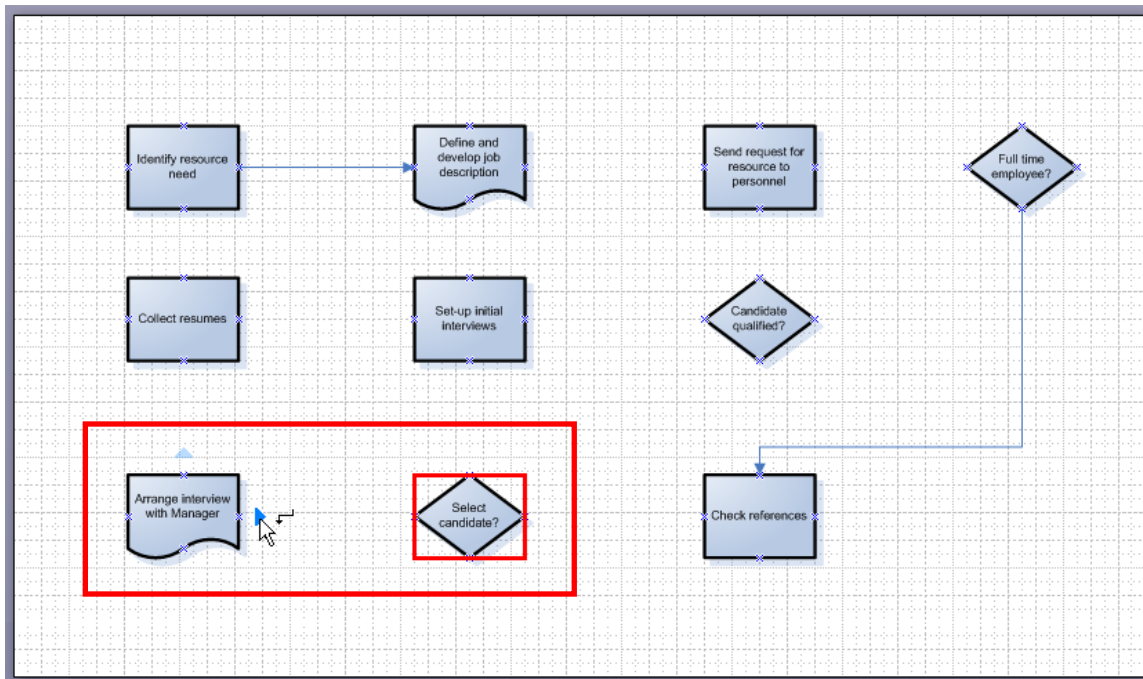

Figure 15 – Shape-to-shape Connection Using AutoConnect
2. Position the pointer over the blue connection arrow  that is closest to the **Decision** shape  to the right of it. The arrow turns dark blue and a red box appears around the **Decision** shape (see Figure 15).